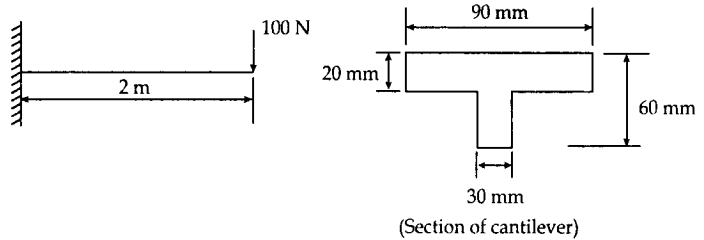

Fig. 5
6. (a) A cantilever 3 m long has a T-section, as shown in Fig. 5. It carries a load of 1000 N at the free end. Calculate the maximum tensile and compressive stresses in the beam. 7